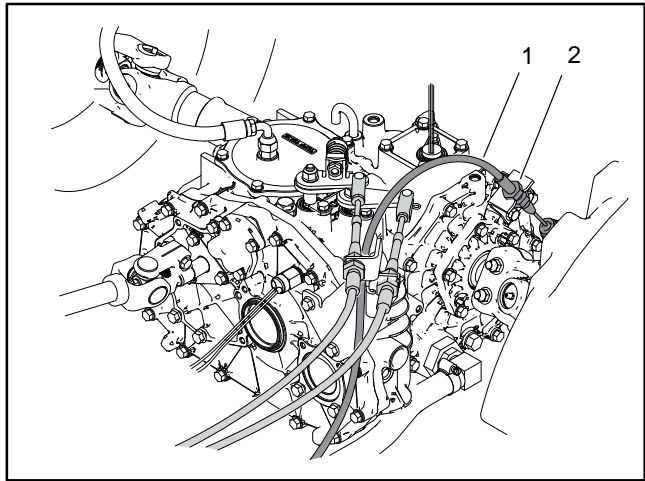

Figure 6
2. Remove knob from differential lock lever and remove rear switch panel (item 4). Disconnect rear switch panel switches from wire harness and remove choke cable from rear switch panel for better access to cable.
4. Remove the bottom console cover (item 1) and right front fender assembly.
5. Remove retaining ring (item 18) from differential lock cable and remove cable from slot in frame plate.
6. Remove differential cable from transaxle. (Fig. 6):
2. Install differential cable to transaxle. (Fig. 6):
3. Fit cable to slot in frame plate and install retaining ring (item 18).
4. Install the right front fender assembly and bottom console cover (item 1).